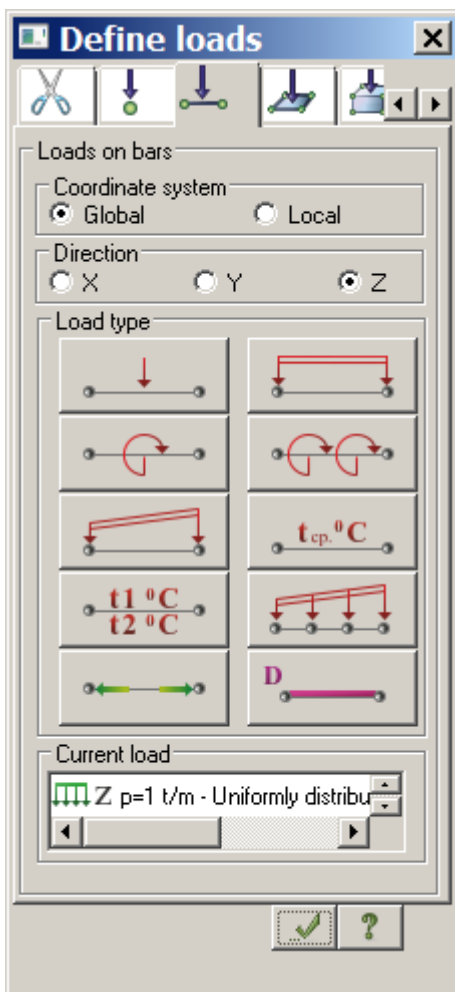

Figure 18.11 Define loads dialog box
- ⇒ In the **Define loads** dialog box (see Fig.18.11), specify **Global** coordinate system and direction along the **Z-axis** (default parameters).